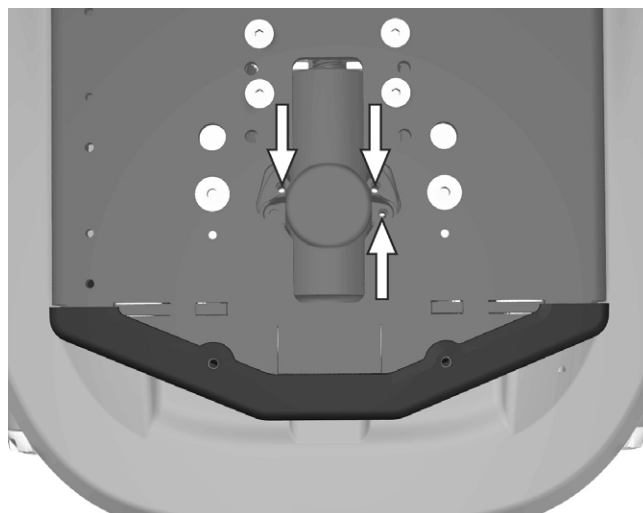

Figure 82. The electric motor of the seat tilt mechanism is assembled with three screws.
2. Refit the electric motor of the seat tilt mechanism, it is assembled with three screws. See fig. 82. **NOTE!** The actuator has to be calibrated after refitting!